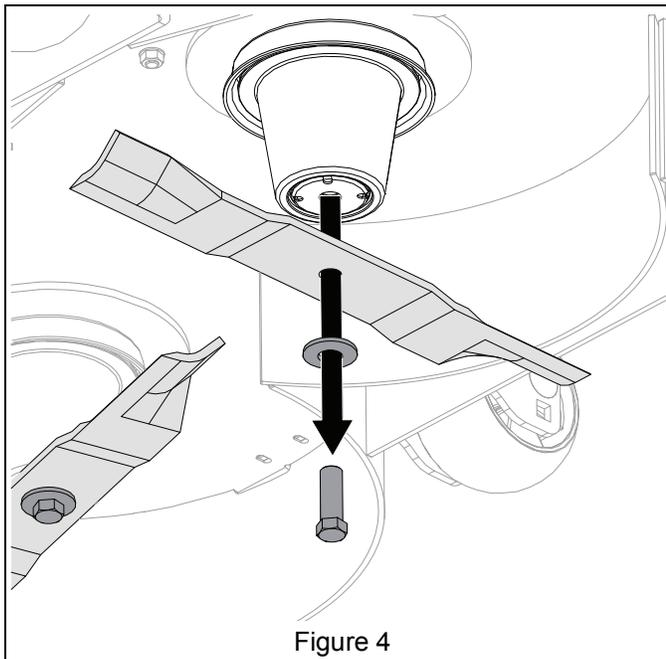

Figure 4
- Remove and retain hardware securing mower blades and remove blades. Retain blades for operation without mulch kit. See Figure 4.